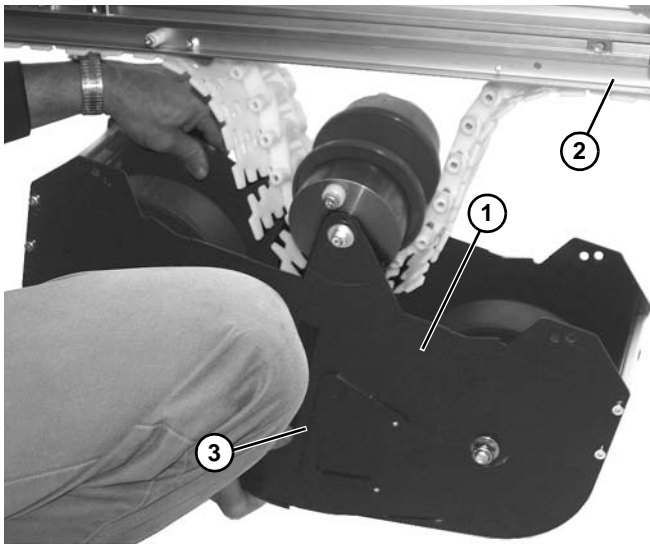

Figure 147
2. Lower weighted take up assembly (Figure 147, item 1) from conveyor (Figure 147, item 2) by disengaging locking teeth (Figure 147, item 3) on both sides.